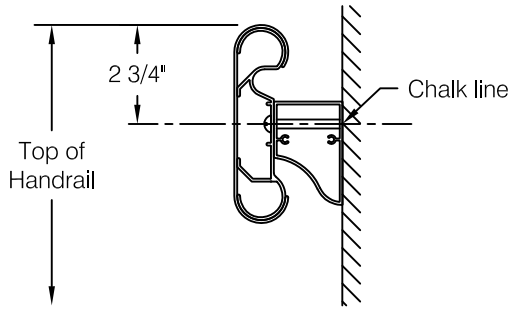

fig 1
- Step 1:** Determine top of handrail height and snap a chalk line 2 3/4" below for centerline of mounting hardware, see **fig 1**.